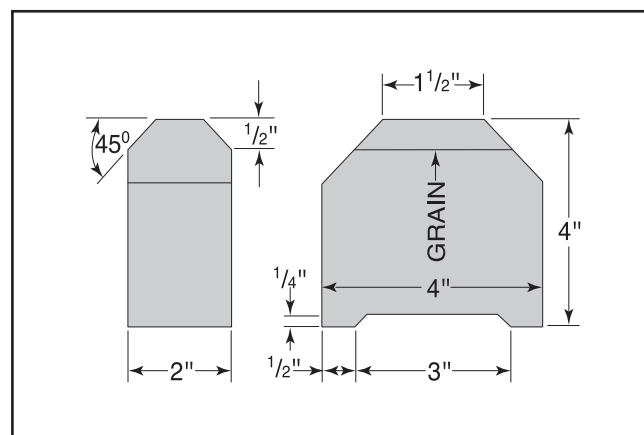

Figure 65. Gauge block plans.
2. Use the plans shown in **Figure 65** to make a wooden gauge block.